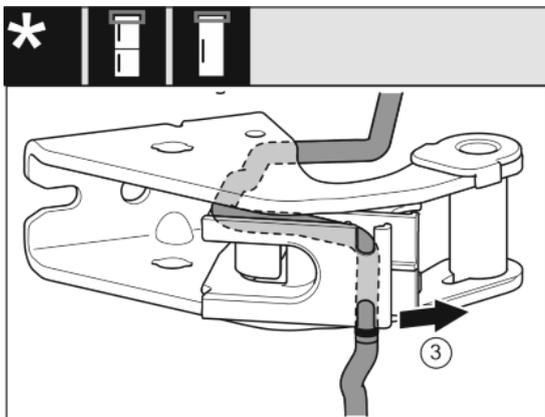

Fig. 22
- ▶ Remove the cable from the guide. Fig. 22 (3)